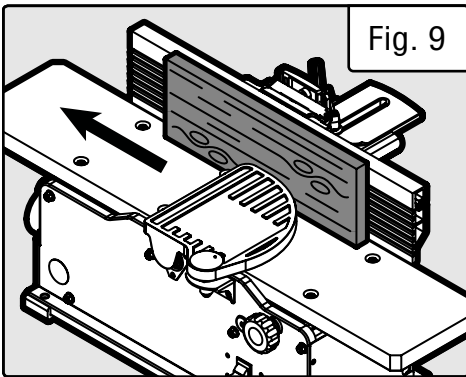

Fig. 9
2. Feed the work piece at an even rate over the cutterhead. Any hesitation or stopping will cause a “step” to be cut in the work piece. See Figs. 9 - 11 for different feeding methods.